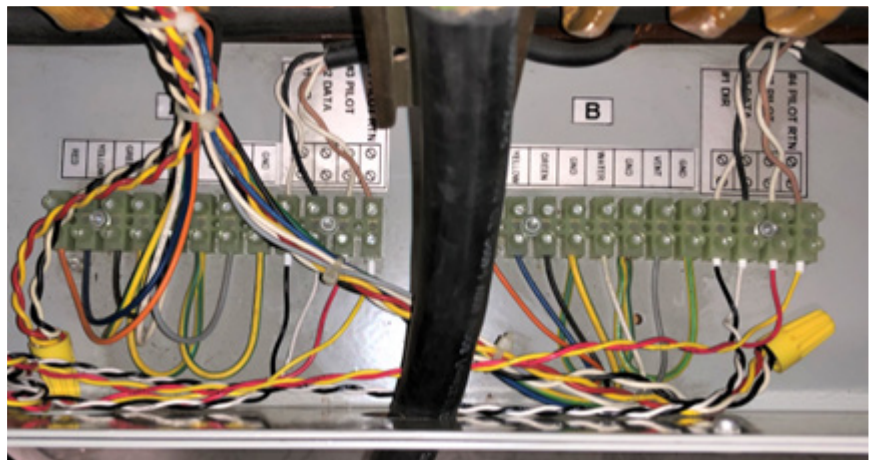

Figure 11 X1 Cable Connected to Channel A of TB1 for Communication Connections in DVS100/DVS150 Charger
9. Connect the X1 cable from the X1 connector on the CAN board to TB1 of Channel A in the DVS100/DVS150 charger (Figure 11) as listed below.
Twisting wires (Figure 11) is recommended for longer distances. Keeping them close together, however, is more important than twisting them.